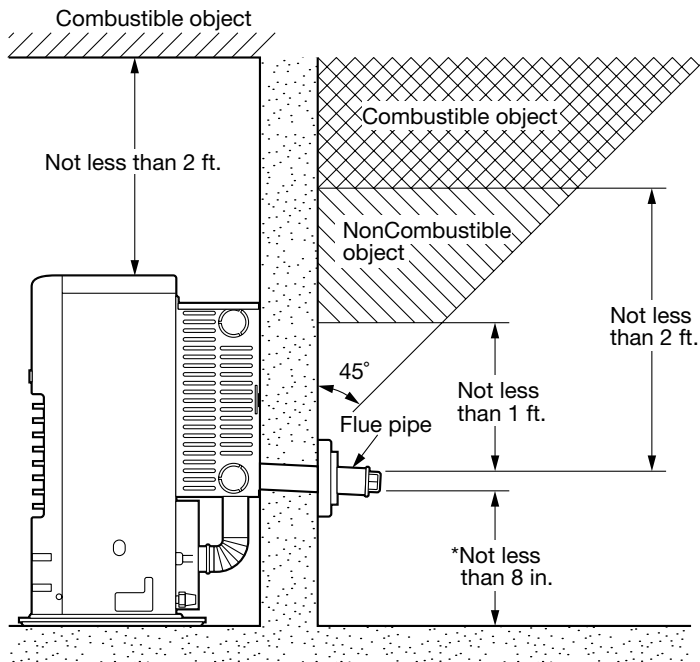

Fig. 2
When using the "Extension pipe (M)" extension kit, the distance between the heater exhaust pipe connection and the flue pipe connection must be at least 25-5/8 inch but no more than 42-1/2 inch. (See Figure 2 for reference.)
(See Fig. 2 & 3)
**CAUTION!** The standard flue pipe installation, as shown in Fig. 2, is for wall thickness from 4 in. to 9 in. ONLY.